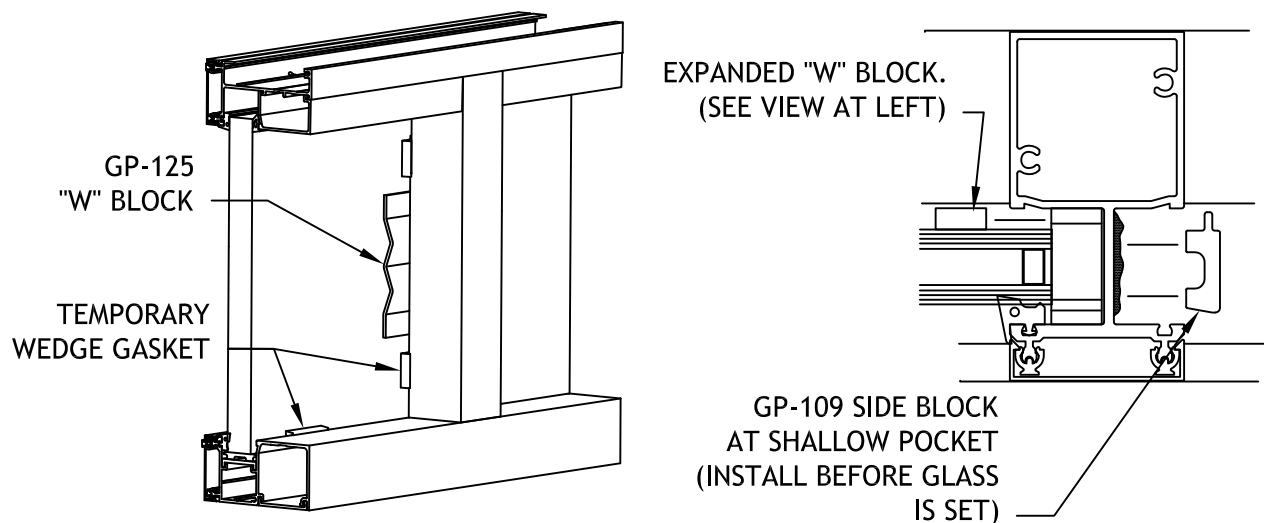

FIGURE 29
- 8.4 Install side blocks in vertical mullions as required. **SEE FIGURE 29.** Consult glass manufacturer for preferred location in seismic areas. **Note: Side Blocks are optional and not required at SSG Mullions.**